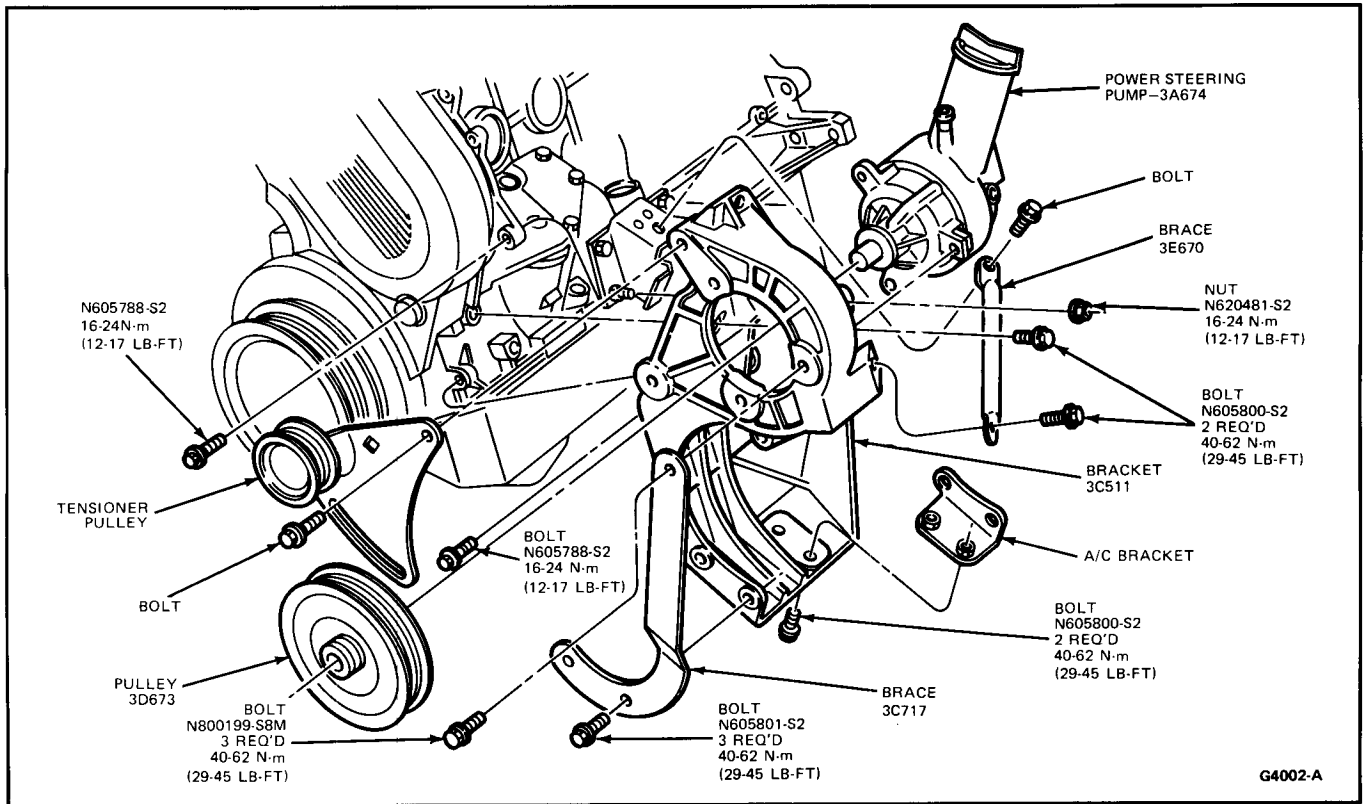

FIG. 1 Power Steering Pump and Bracket—Installation
2. Hand start two bolts to front of engine and tighten to specification. (Refer to Fig. 1 for all torque specifications).